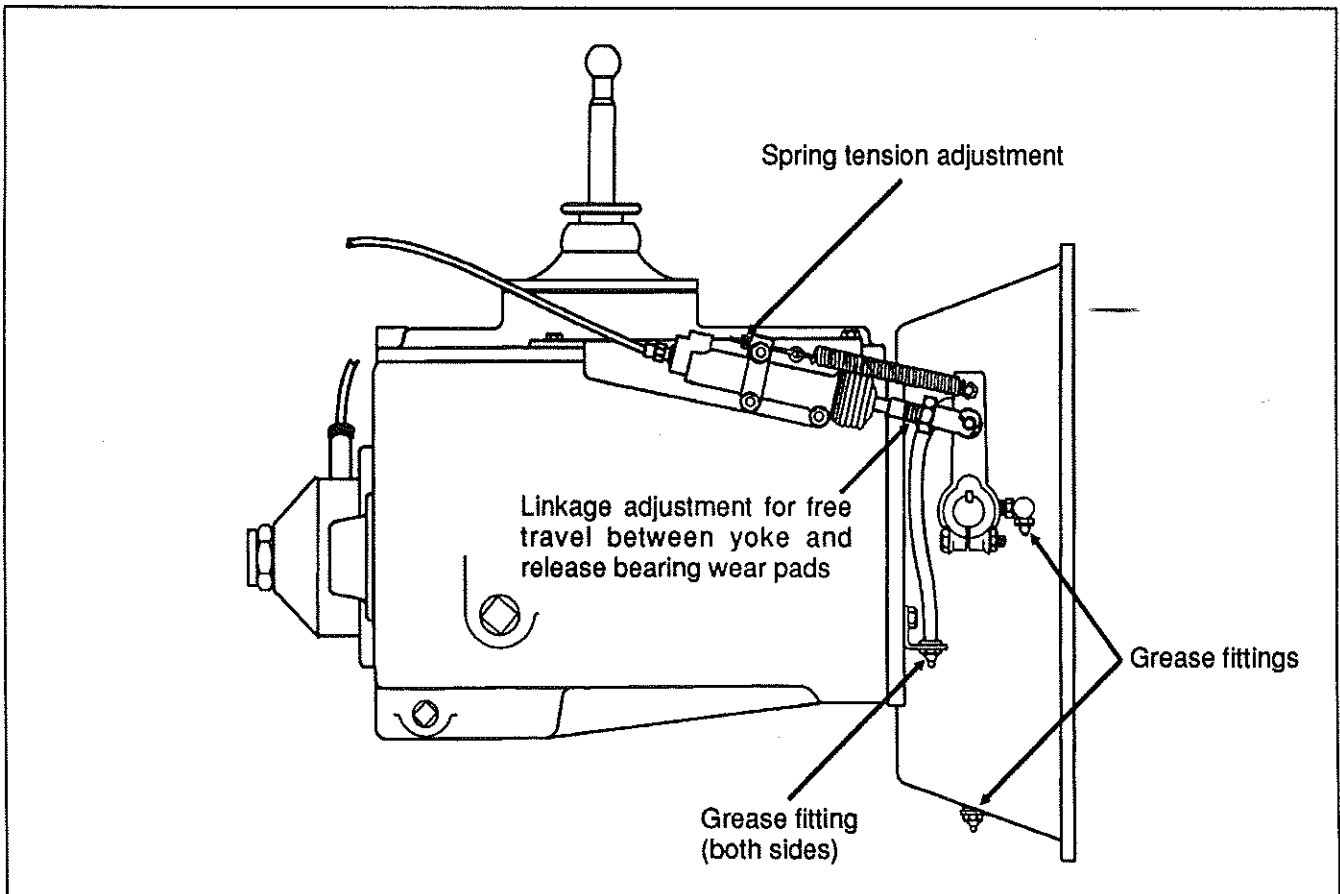

Fig. 25
2. If clearance is incorrect, readjust the operating cylinder linkage yoke (see fig. 25) until proper clearance is achieved.
The return spring is mounted right over the operating cylinder (see fig. 25). Adjust spring so that it has a sufficient tension to return clutch yoke lever to its neutral position.
The clutch components should be lubricated every 5,000 miles (8 000 km) or twice a year, whichever occurs first (refer to previous fig. 25 to identify the clutch component grease fittings).